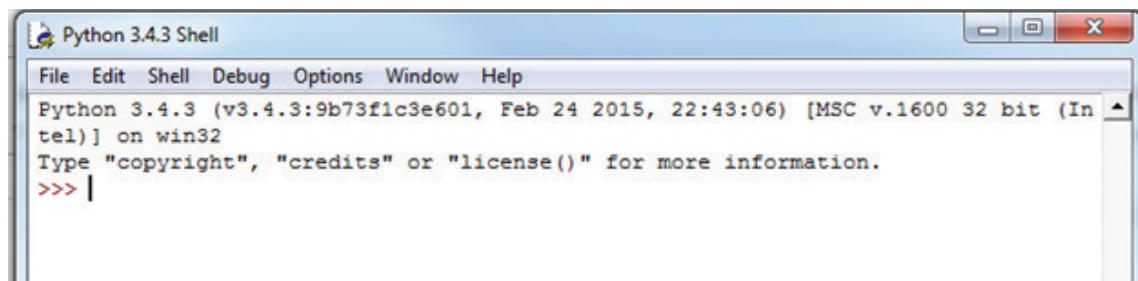

Figure 1-13. Python Shell
6. The Python 3.4.X shell will open and take line by line commands. See Figure 1-13.